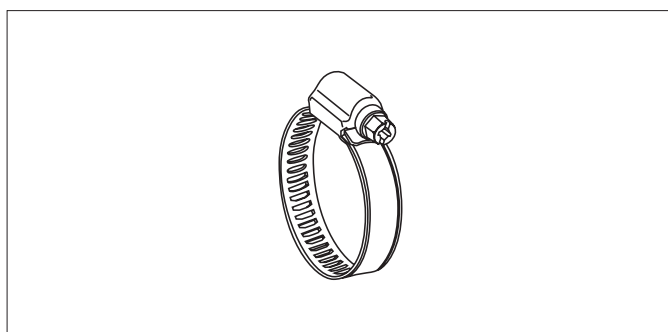

Fig. A2-11 Common hose clamps with worm drive
- Slip a suitable hose clamp (see Figures A2-11 and A2-12) onto the RAUGUARD.